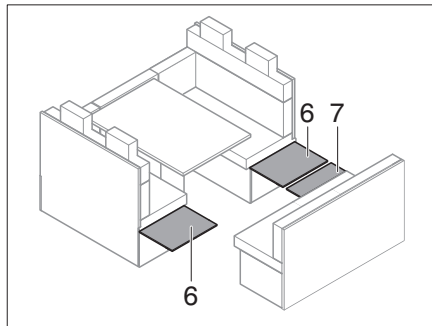

Fig. 220 Folding out side panels
- Fold out the seat bench side panels (Fig. 220,6) and seat bench front panel (Fig. 220,7).